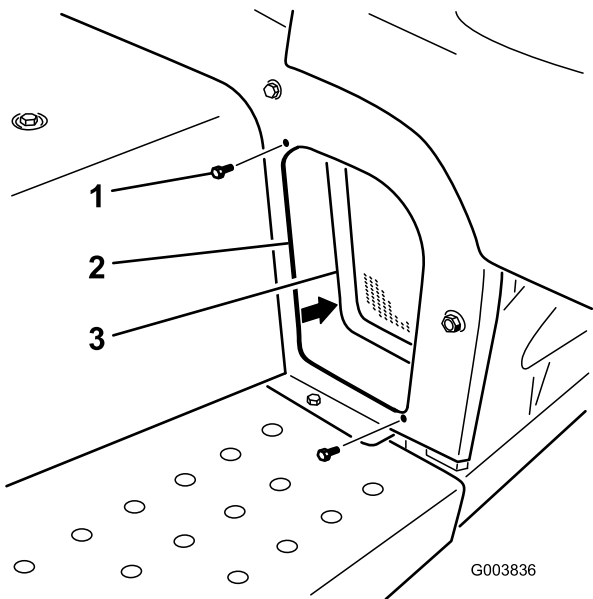

Figure 6
- Remove the 2 flange-head screws securing the left front screen to the frame (Figure 6). Remove and retain the screen and hardware.